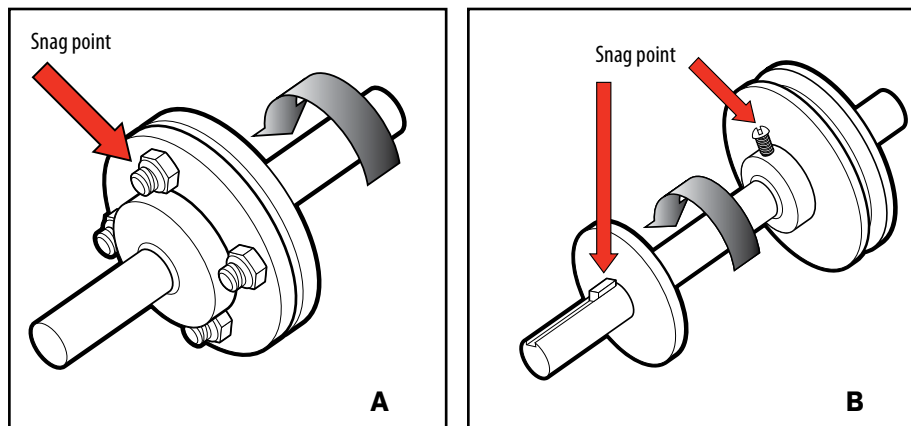

Figure 1.1. Single rotating parts presenting a snagging/entanglement hazard.
- Single rotating parts, such as shafts or couplings, present a risk of snagging or entanglement. Two or more parts rotating together, such as feed rolls and V-belt and pulley drives, create nip points (see Figures 1.1 and 1.2).
Figures 1.1 to 1.5 illustrate common mechanical hazards where hands, limbs, hair, clothing, and sometimes the entire body can be injured from harmful contact with unguarded moving machine parts. The illustrations show typical cases, not all possibilities.
- Power transmission parts. These are the moving parts of the power train. They usually consist of belts, pulleys, chains, sprockets, gears, shafts, and couplings. Many of the moving parts illustrated in Figures 1.1 and 1.2 are power transmission parts.
The types of machine components and drives shown in Figures 1.1 to 1.5 are very common in most industrial operations. They account for a large number of serious injuries in the workplace.